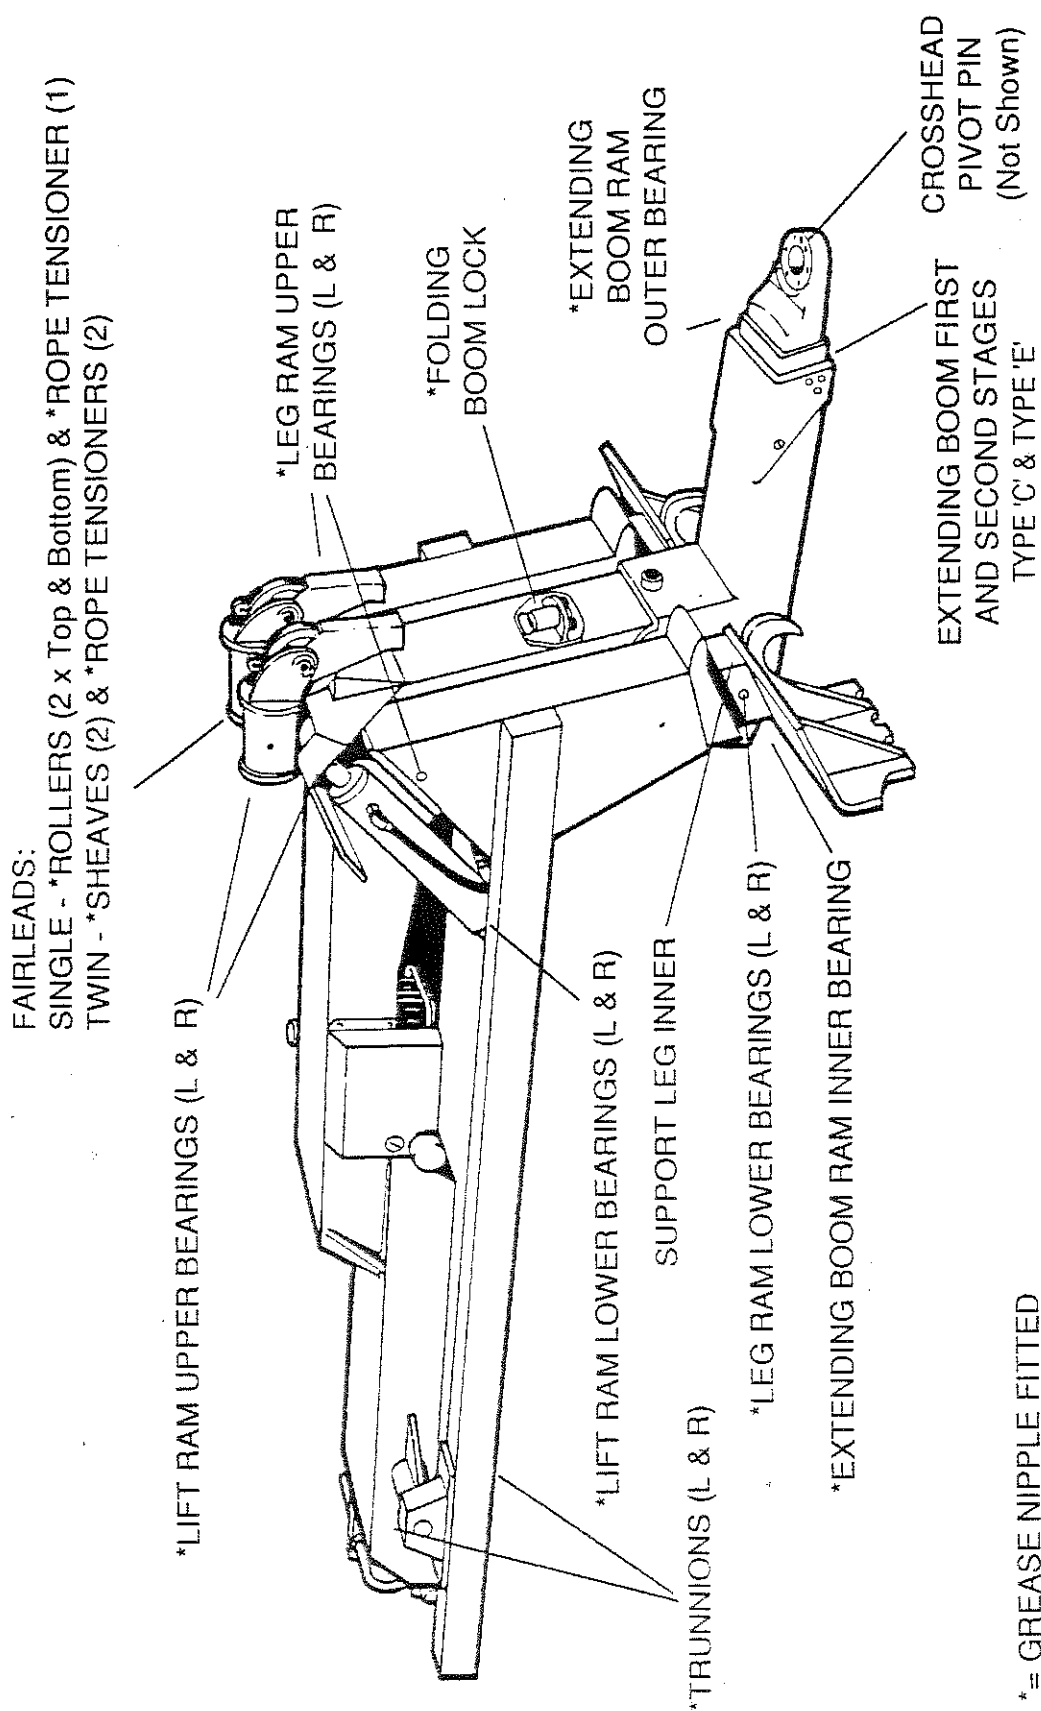

Figure 16 - Lubrication Diagram
- 4.3.1 Lubricate all round. See Figure 16 Lubrication Diagram